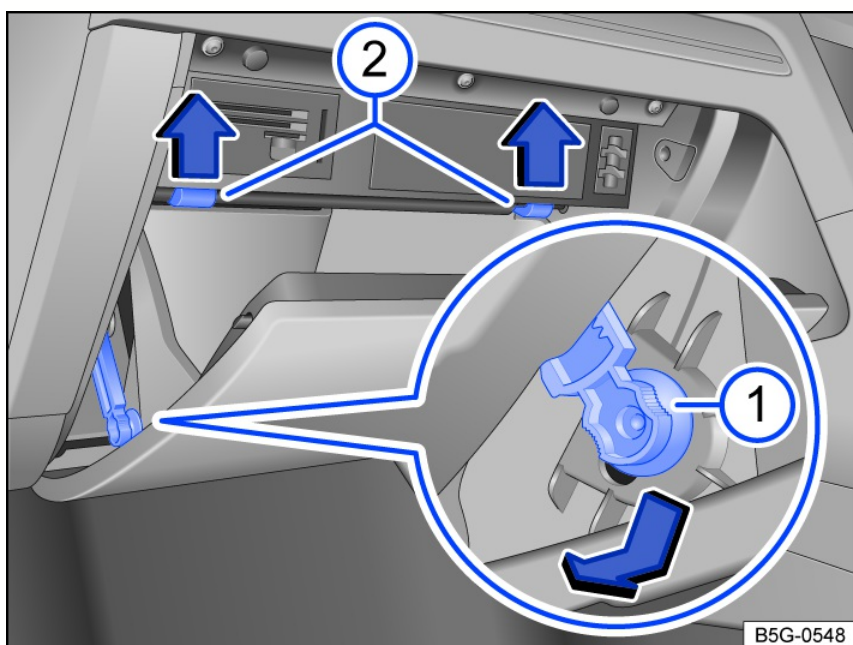

Fig. 181 On the passenger's side: Fuse box cover in the instrument panel (right-hand drive vehicles).
- Push the damper element in the direction of the arrow and into the opening in the bracket, before pulling it out sideways fig. 181 ①.
- Push the catches up in the direction of the arrow while at the same time opening the storage compartment further fig. 181 ②.
- To *install*: move the storage compartment into position. Fit the damper element into the opening in the bracket and push it in the opposite direction to the arrow fig. 181 ① until you hear it click into place. Push the storage compartment carefully forwards past the resistance of the stop pin fig. 181 ②.